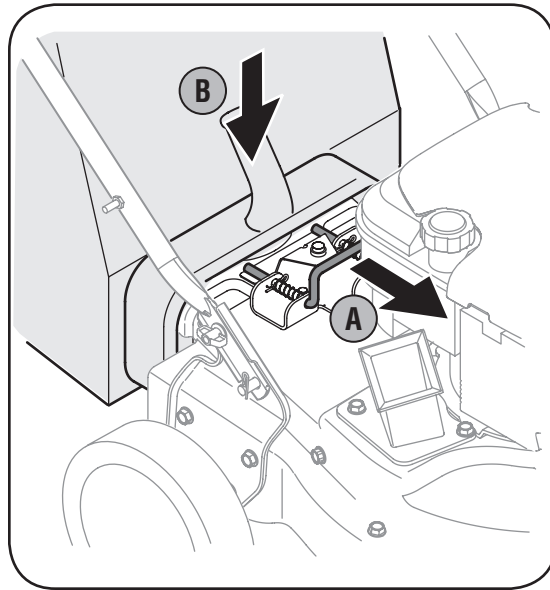

Figure 3-5
2. Slip bag over the rim of the discharge opening and release locking rod to secure bag in place. See Figure 3-5.